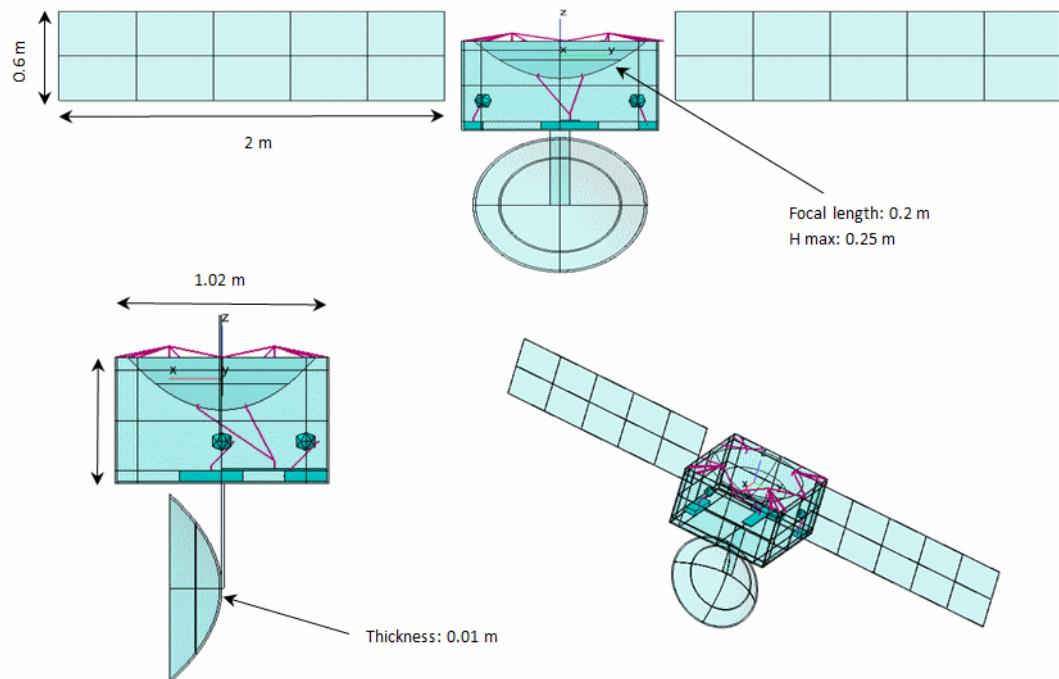

Figure 3-1 Model 2 spacecraft design
The spacecraft consists of a structure with two solar panels, two antennas, some boxes you will apply Boundary Conditions (BC) to, and a cold finger used to reduce the temperature of the antennas. See Figure 3-1.